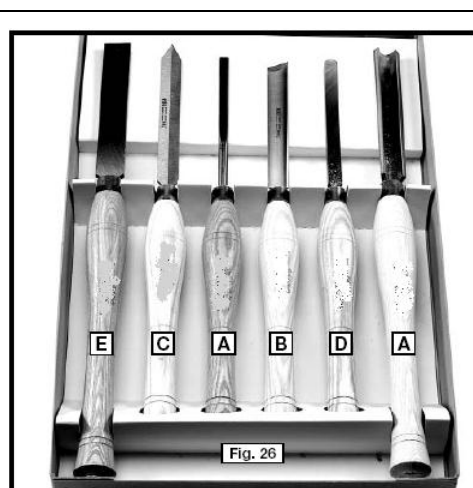

Fig. 10
Standard wood turning tools come in several different configurations (Fig. 10). The majority of turnings will require the gouge tool (A) Fig. 10. This round nosed hollow chisel is used for roughing cuts, cove cuts and other operations. The skew chisel (B) is a double-ground flat chisel, with an angled end. This tool is used for smoothing cylinders, for cutting shoulders, beads, vee grooves, etc. The parting tool (C) is a double-ground chisel, used for cutting-off, or for making straight incisions or sizing cuts to any required diameter. The round nose scraper (D) is used for mostly hollowing work, while the square-end scraper is mainly used for the outside of bowls.